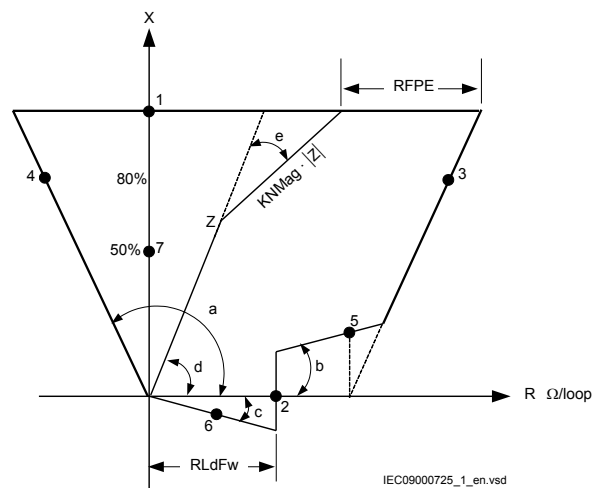

Figure 9: Distance protection characteristic with test points for phase-to-earth measurements
Table 8 is used in conjunction with figure 9.
4. Repeat steps 1 to 3 above to find the operating value for the phase-to-earth fault L3-E according to figure 9 and table 8
3. Repeat steps 1 to 2 to find the operating time for the phase-to-earth fault according to test point 7 in figure 9 and table 8. Compare the result of the measurement with the setting $tIPE$.